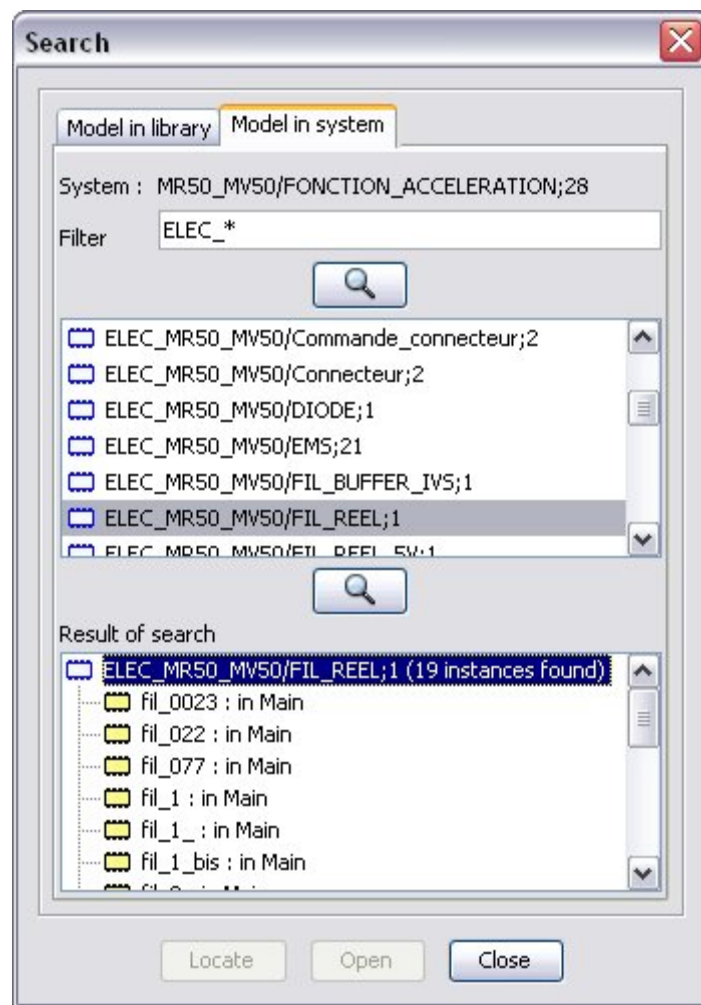

Figure 75 : Search window
1. Use the **Edition – Search** menu or type the **CTRL + B** command on the keyboard or use the  icon in the *Standard* tool bar; the *Search* window (Figure 75) is displayed.